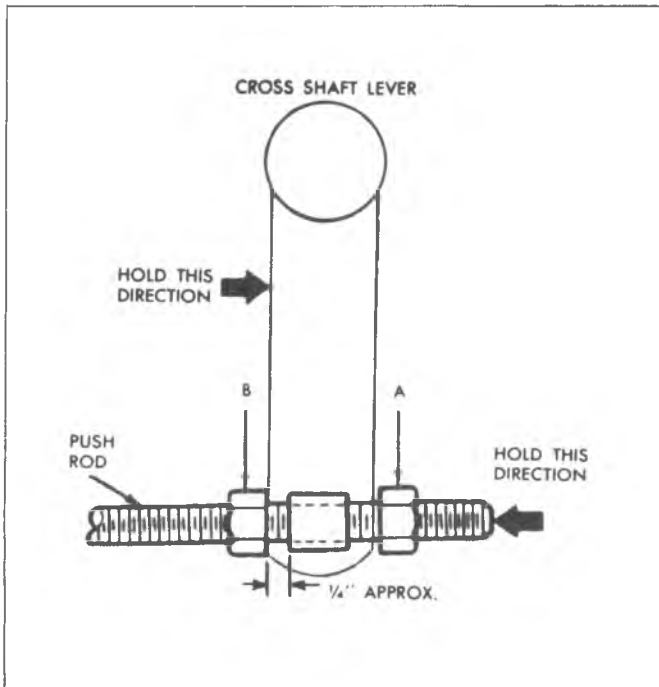

Fig. 3—Free Travel Adjustment
2. Loosen nut "A" (fig. 3) and back off from swivel approximately 1/2 inch.